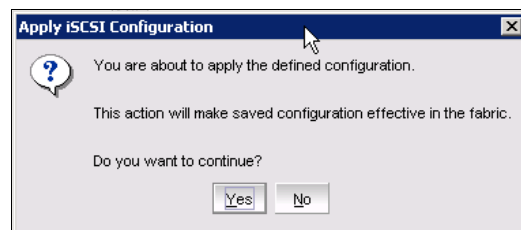

Figure 11-54 Apply Configuration dialog box
12. An Apply Configuration dialog box (Figure 11-54) opens. Click **Yes** to continue.